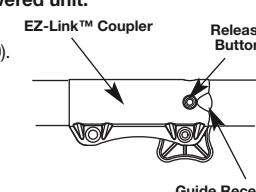

Fig. 8
2. Press and hold the release button (Fig. 8).
NOTE: Aligning the release button with the guide recess will help installation (Fig. 8).